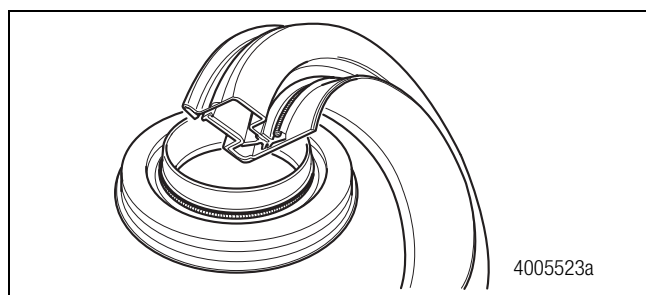

Figure 5.94
4. Remove the replacement unitized seal from the package. Figure 5.94.